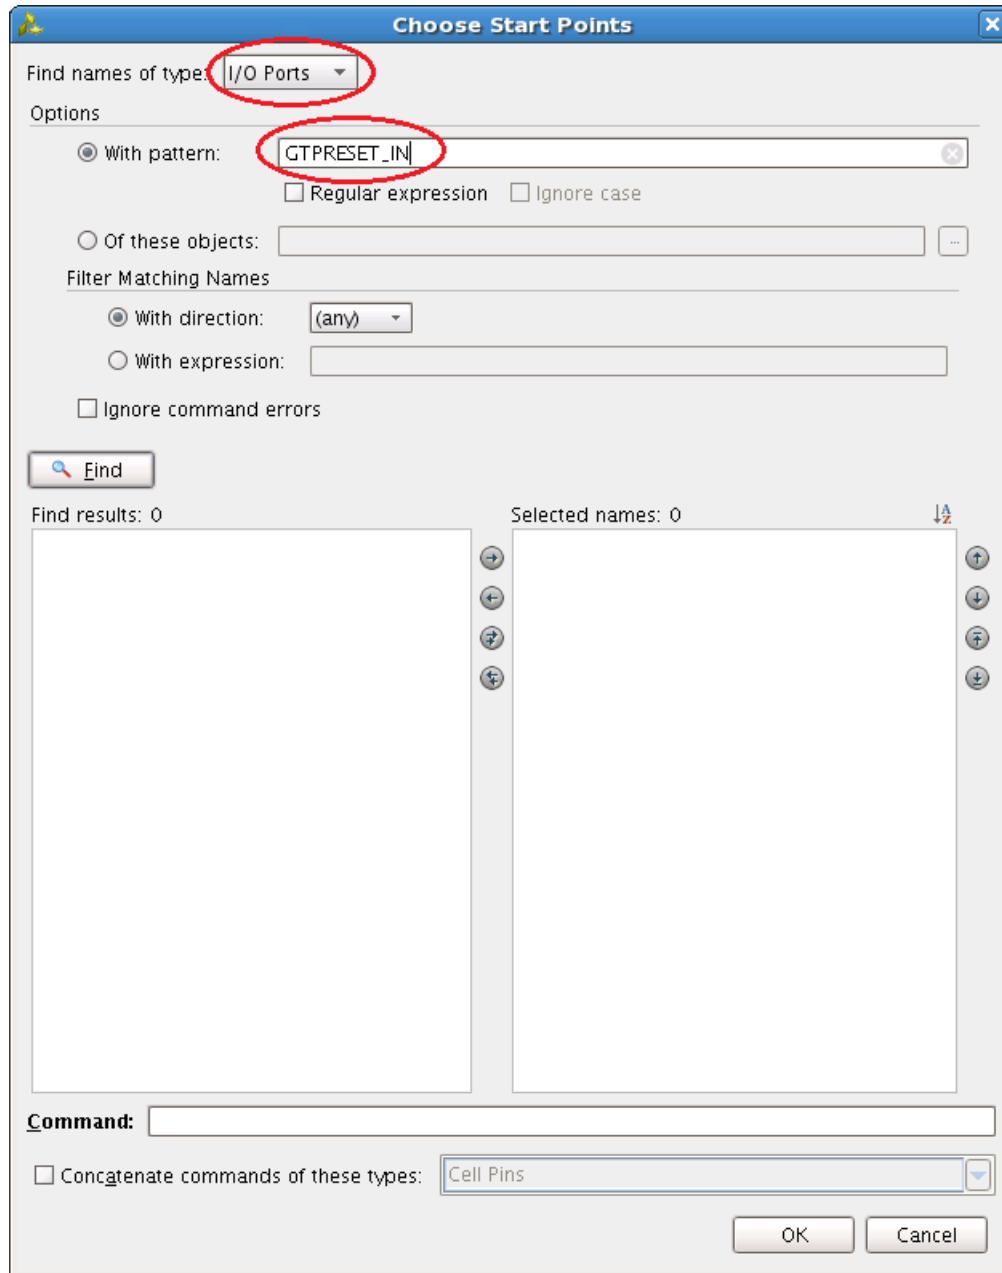

Figure 17: Choose Start Points Window for set_false_path Dialog Box
7. From the **Find names of type** drop-down list, select **I/O Ports** as shown in Figure 17, page 24.